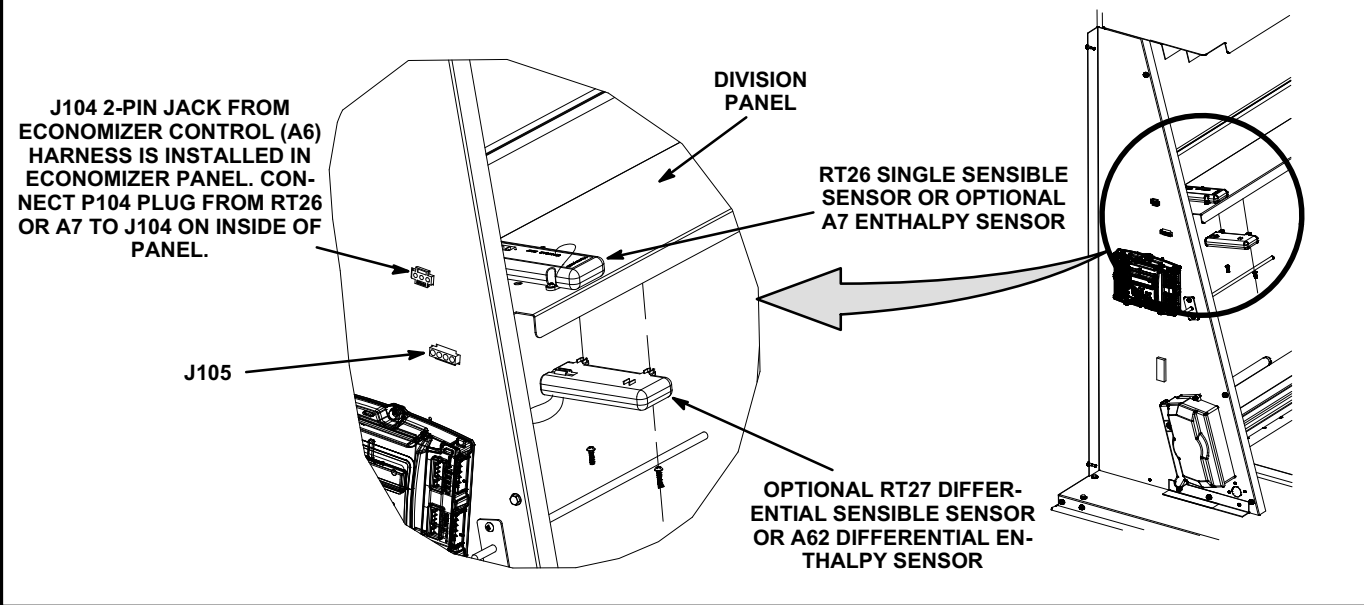

FIGURE 16
- 1- Install RT26 sensor onto the divider panel as shown in figure 16. Use #6-32 X 7/8" TFS screws provided.
- 1- Locate **brown kit harness** with wires labeled P104-1 & P104-2 one one end and A7-1 & 2 on the other end. Insert the connector with wires labeled P104-1 & 2 into J104 jack previously installed on the side of the economizer. See figure 16. Connect wires on other end of P104 harness to RT26 on divider panel. See figure 17.
- 1- Locate **brown kit harness** with wires labeled P104-1 & P104-2 one one end and A7-1 & 2 on the other end. Insert the connector with wires labeled P104-1 & 2 into J104 jack previously installed on the side of the economizer. See figure 16. Connect wires on other end of P104 harness to A7 enthalpy sensor on divider panel. See figure 17.